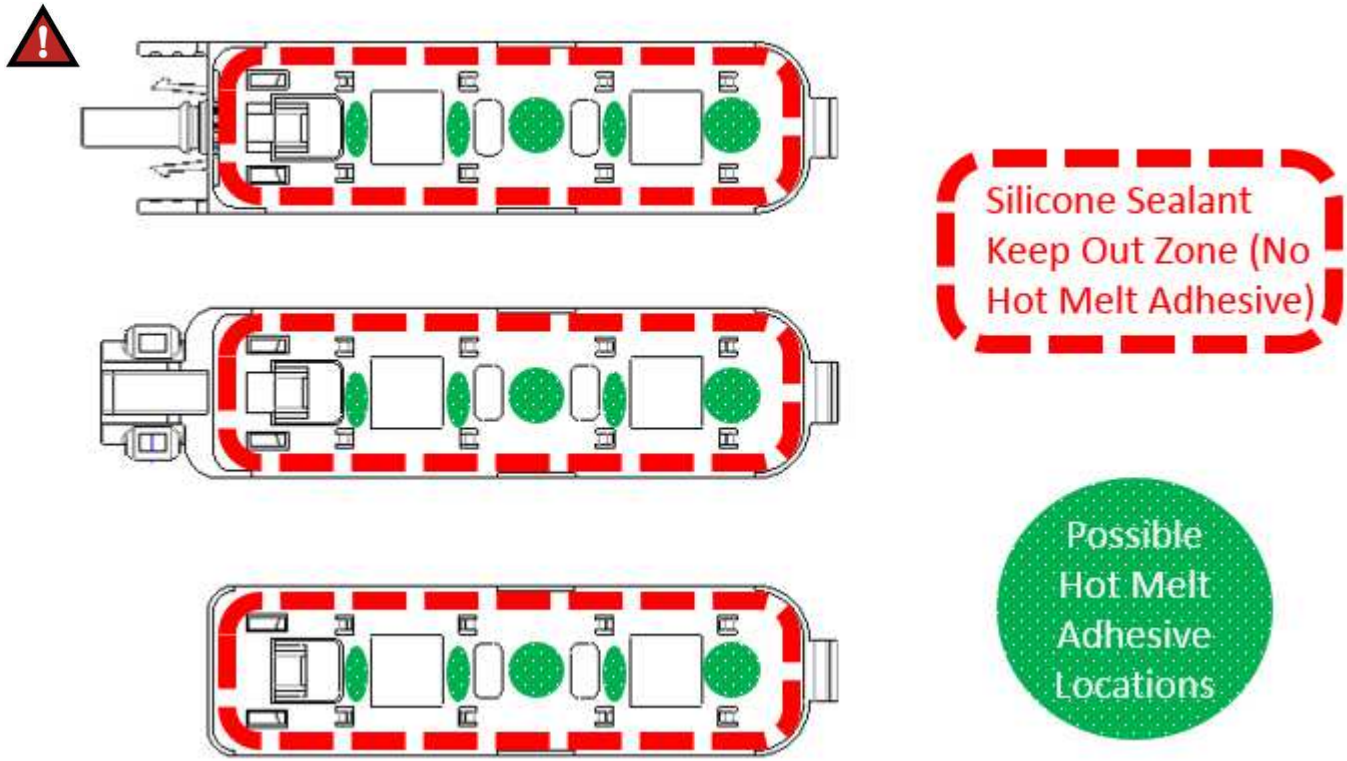

Figure 4, Hot Melt Adhesive Application Locations
4. For applications that require immediate connection and/or handling where the silicone adhesive may be disturbed, a hot melt adhesive can be used to replace the double sided mounting tape. TE has evaluated 3M 3748 Hot Melt Adhesive for compatibility with the PV Edge materials and DOW PV-804 silicone sealant. PV Edge junction boxes can be ordered without the double sided mounting tape to allow the use of hot melt adhesive. Care must be taken to avoid any strings or stray drips of hot melt adhesive from interfering with the electrical connections of both the PV4-S1YX, and the foil rail contacts, the perimeter seal of both the silicone sealant and the O-ring seat on the PV Edge, and the PV4-S1YX connector interface seal seat and small O-ring. The customer must develop and qualify a robust solar junction box mounting procedure to insure the hot melt adhesive does not interfere with these critical areas of the PV Edge. See Figure 4 for possible locations to apply hot melt adhesive. Note that the Hot Melt Adhesive should be applied after the
5. A 6- to 9-mm wide band of the Silicone sealant must be applied to the attachment area (located on the bottom) of the base (shown in Figure 4). The band must be continuous and free of gaps. If desired, the band may be smoothed using a small spatula or brush to ensure a uniform and gap-free application.